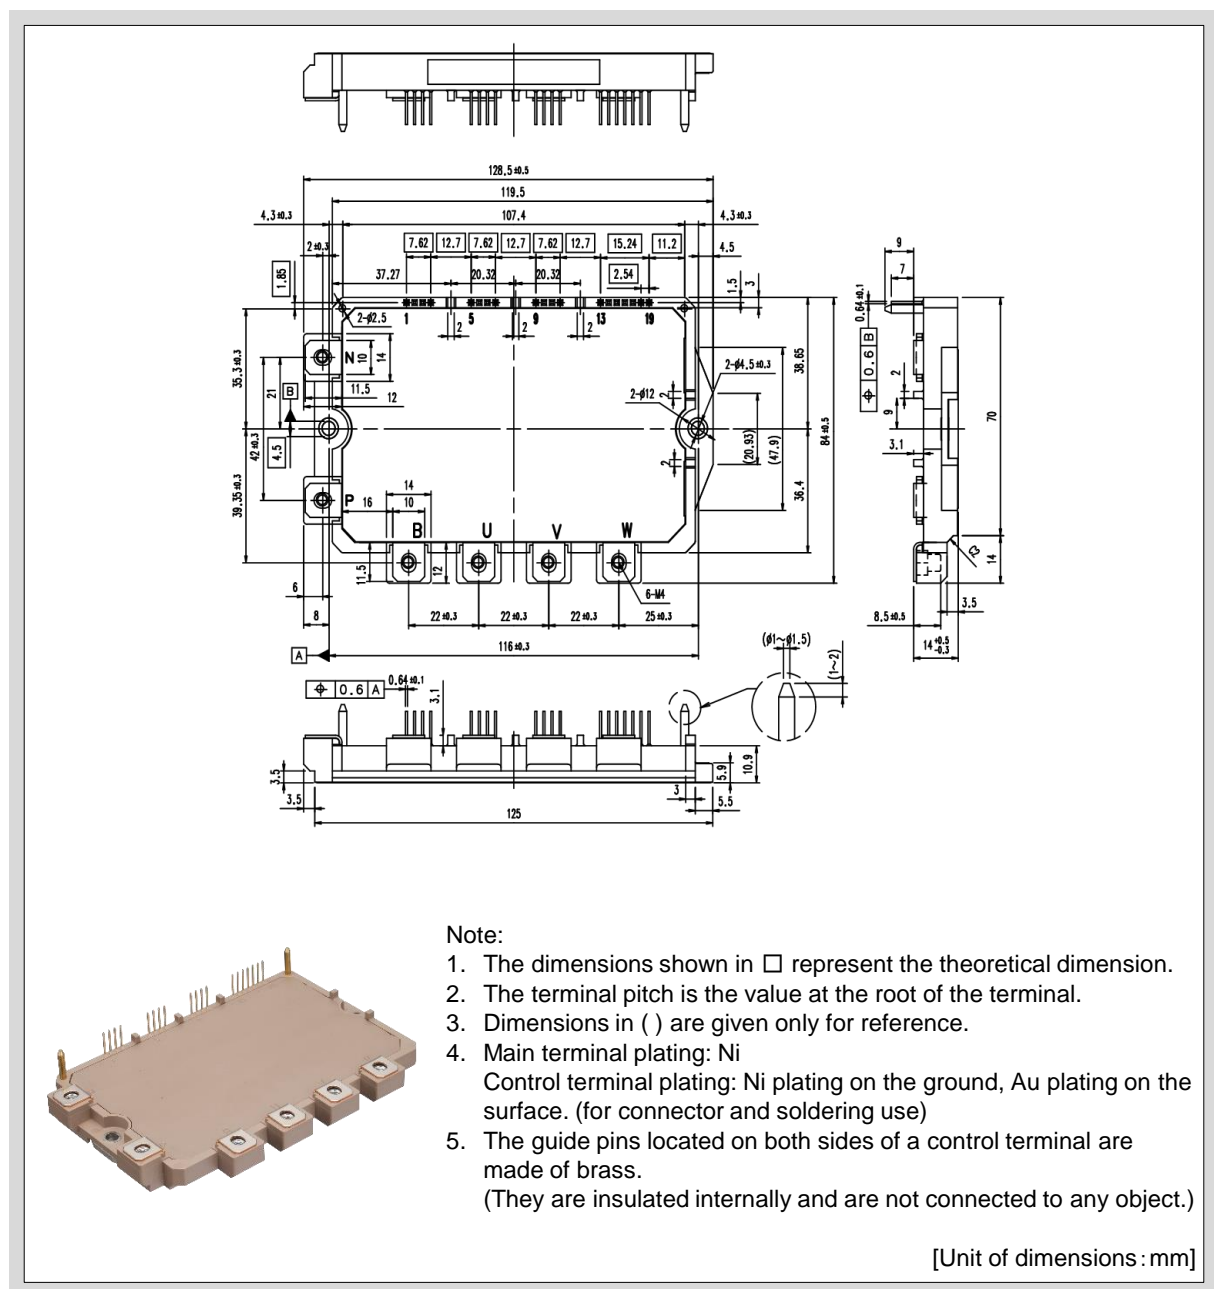

Fig.1-8 Package outline drawing (P630)
- The package outline drawing is shown in Figure 1-8.